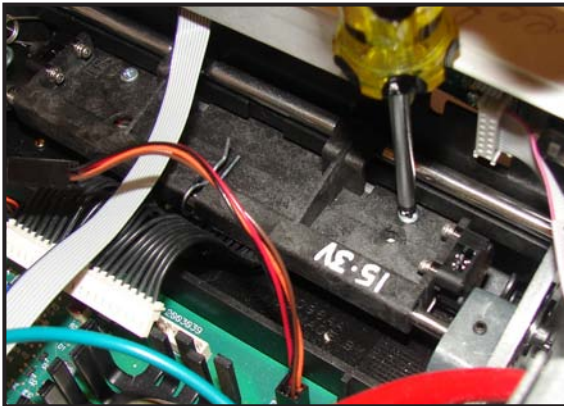

Figure 6-56
4. Use a Phillips screw driver to remove the two screws that attach the printer frame to the print head (See Figure 6-56).